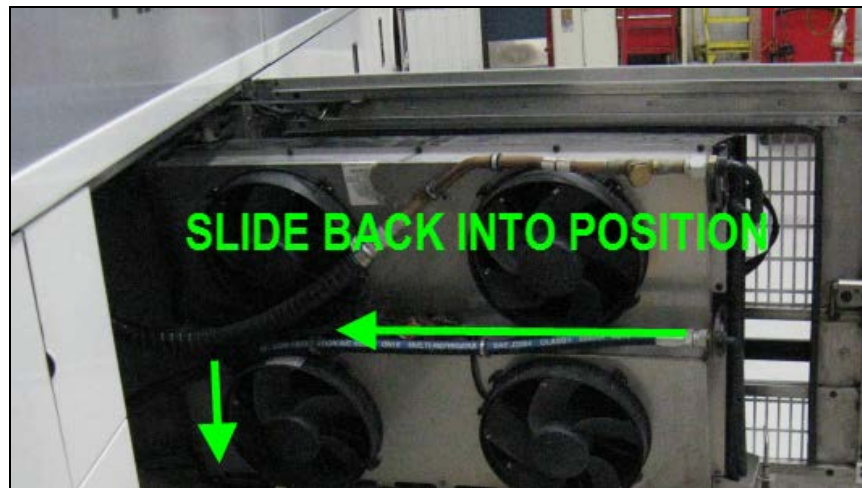

Fig.28
14. Carefully slide back and lower the condenser into position (Fig.28) ensuring that the lower pivot pin is positively engaged (Keep the lift table under the condenser to support it).